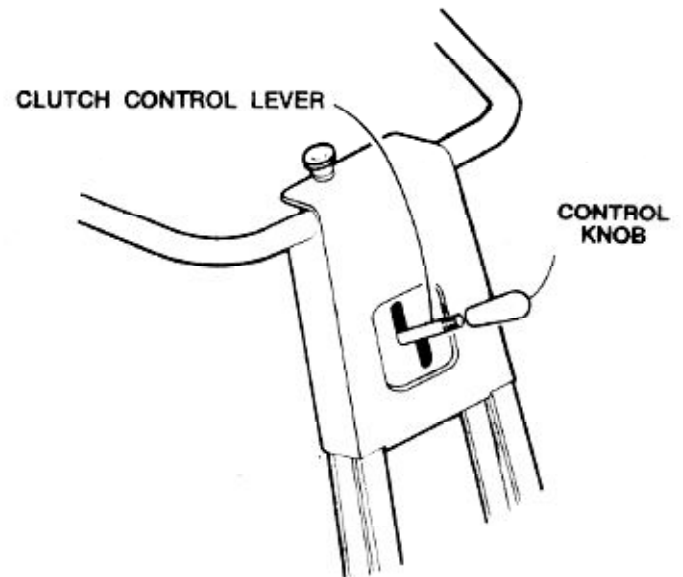

FIG. 7
8. Turn the control knob* onto the the clutch control lever, Fig. 7.